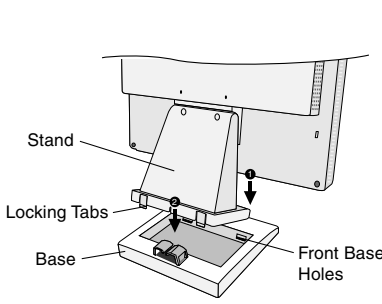

Figure S.1
1. Insert the front of the LCD stand into the holes in the front of the Base (**Figure S.1**).
2. Next, position the locking tabs on the back side of the LCD stand with the holes on the Base. Lower the Stand in place until locking tabs are secure (**Figure S.1**).